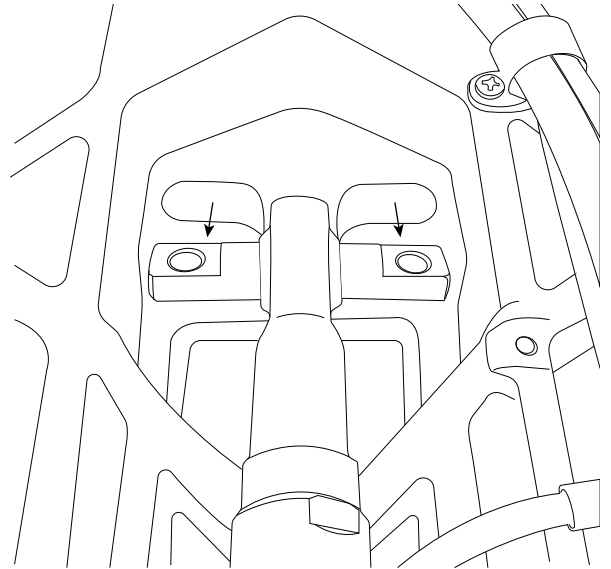

Figure 7. Removing the hydraulic piston
- 4** Remove the hydraulic piston (see Figure 7) by grabbing and pulling/shimmying it loose.